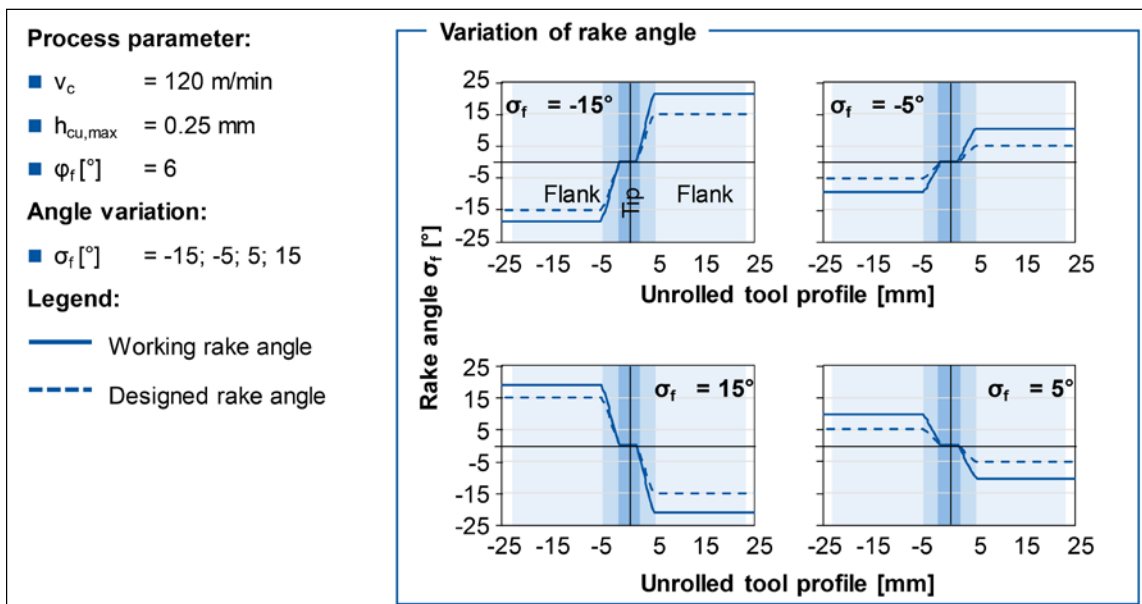

Figure 15 Calculated working rake angle.
**Analysis of the working rake angles.** Figure 15 shows the designed and working rake angles for each case presented in the experimental plan for the rake angles. As already established in early diagrams, the designed rake angle is represented by a dashed line, while the working rake angle is a solid line. The process parameters used for the tests are the same used in the tests with the clearance angle. The designed rake angles vary between the
values  $\sigma_f=-15^\circ, -5^\circ, 5^\circ$  and  $15^\circ$ . For all four variants, the designed flank clearance angle is established with  $\varphi_f=6^\circ$  and the designed tip rake angle with  $\sigma_a=0^\circ$ . During the cutting process, the tool rake angles of the left flank are different from the rake angles of the right flank. The magnitude of the angles in both flanks are the same, but with an opposite sign. This characteristic is shown in the curve of the designed rake flank angle in Figure 15. For the variant  $\sigma_f=-15^\circ$ , a minimum working flank rake angle of  $\sigma_{fw}=-19^\circ$  is established on the left flank during the process. The large negative rake angles lead to a skive during the cutting process. In addition, the cutting forces will increase and the